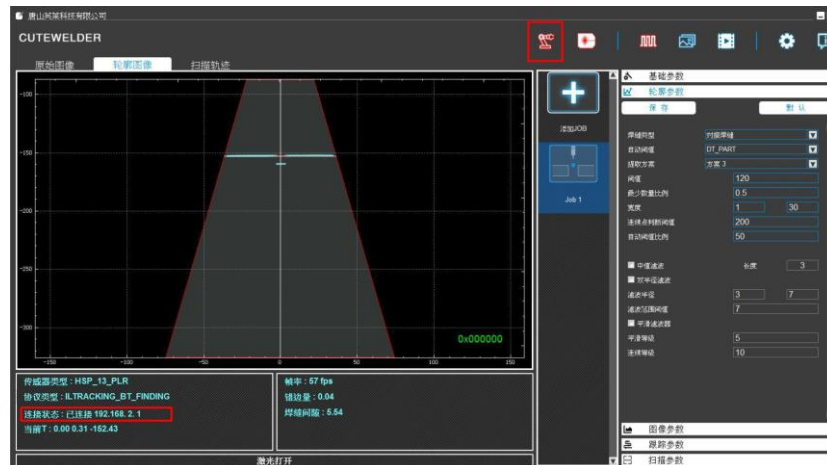

Figure 8-7 Establish a communication connection status with the robot
- Step4. The robot whose connection display icon turns red represents the connection status, and the text in the lower left corner indicates that the connection status has been connected, as shown in Figure 8-7.